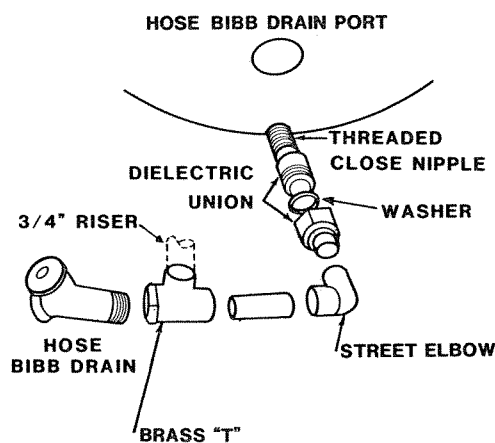

Figure 2.27
2. Tank drain port modification: Remove the hose bibb drain if necessary and install the kit hardware as shown in Figure 2.27.